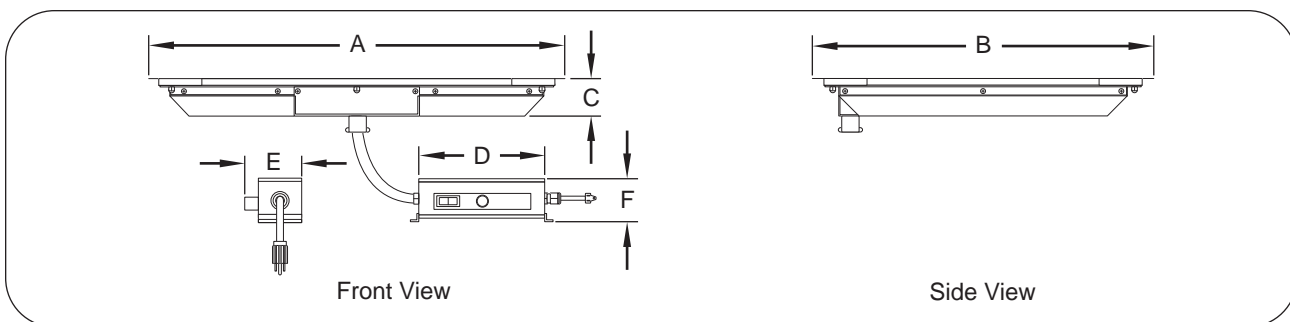

Figure 8. Dimensions – GRSSB Model
5. Apply a bead of National Sanitation Foundation (NSF)-approved sealant on the top edge of the countertop cutout and the underside of the trim mounting ring (see Figure 8). The sealant must be rated for use at a minimum temperature of 250° F (121° C).